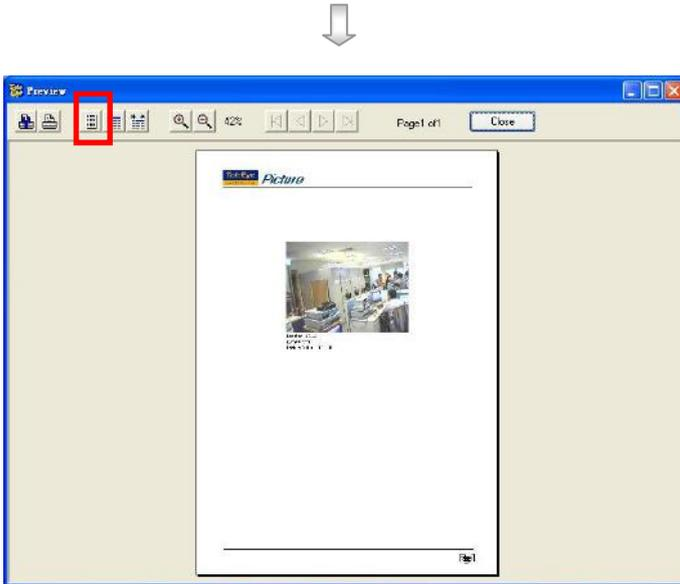

Fig 11.2d
Step 3 : Click [Fit Page]  icon to preview the picture in fit page size as shown in Fig 11.2d.